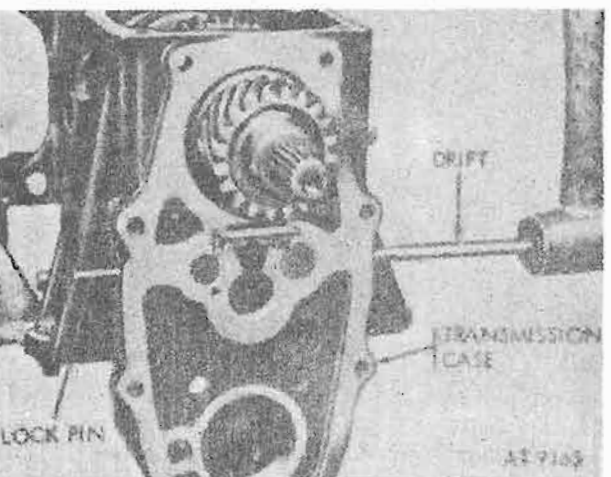

Figure 8-32. Countershaft lock pin.
- e. Using small diameter long shank drift, drive out lock pin securing countershaft in transmission case (fig. 8-32).